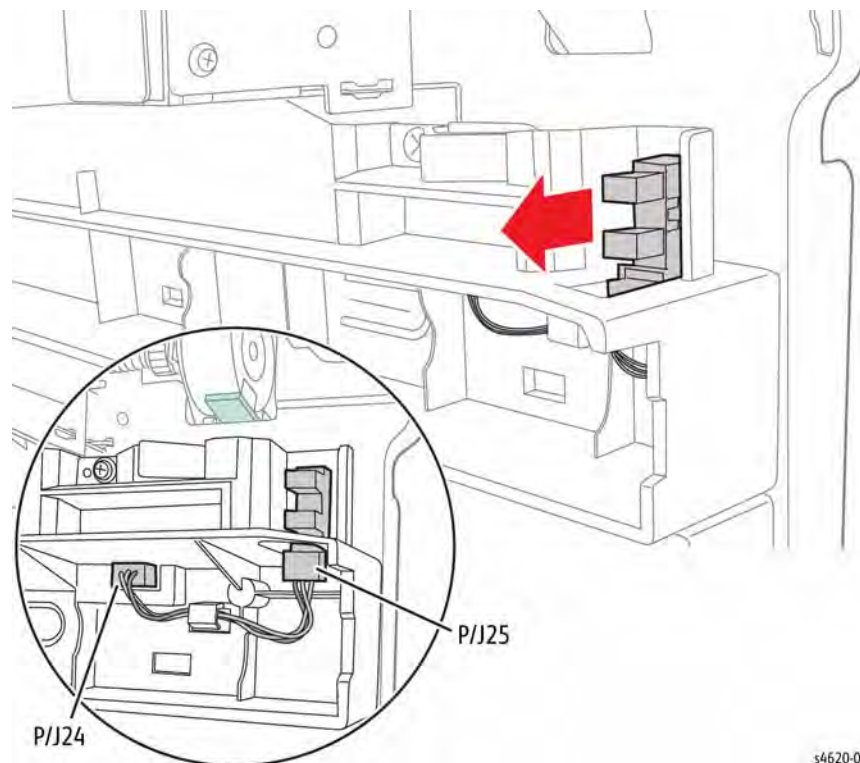

Figure 1 Remove the Duplex Unit Detect Sensor
5. Disconnect P/J25 to remove the sensor, Figure 1.